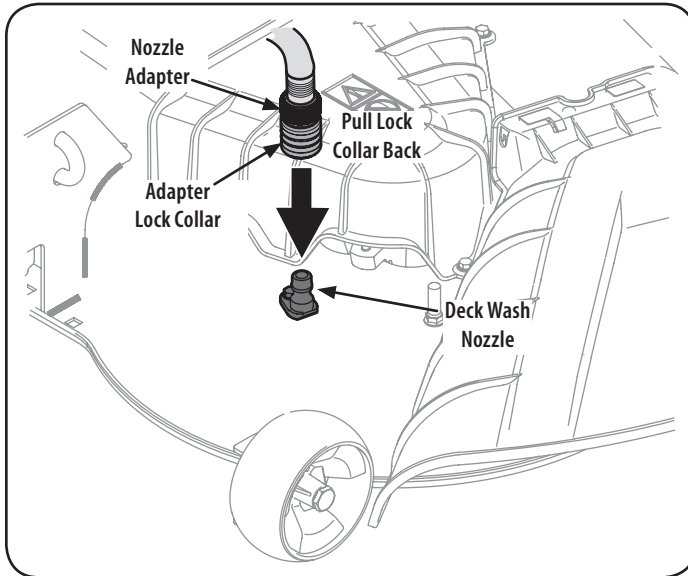

Figure 23
3. Pull back the lock collar of the nozzle adapter and push the adapter onto the deck wash nozzle at the left end of the mower deck. Release the lock collar to lock the adapter on the nozzle. Refer to Figure 23.